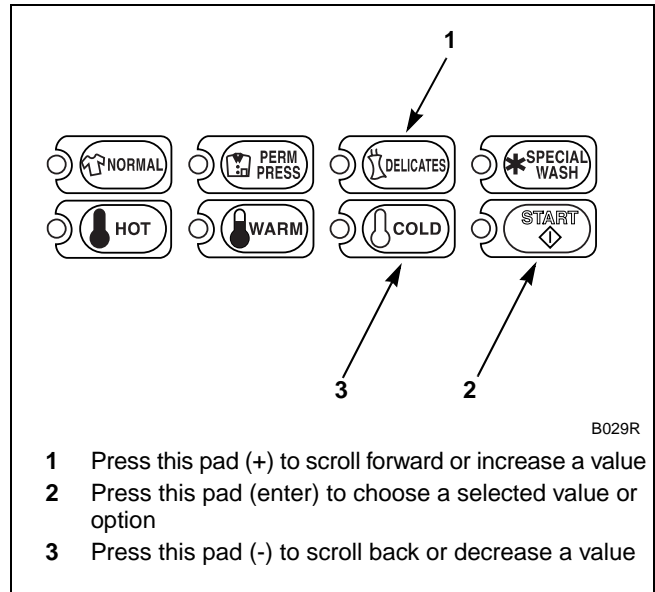

Figure 206
5. Press the DELICATES (+) or the COLD (-) keypad to increase or decrease the current value to the desired value. Refer to *Figure 206*.